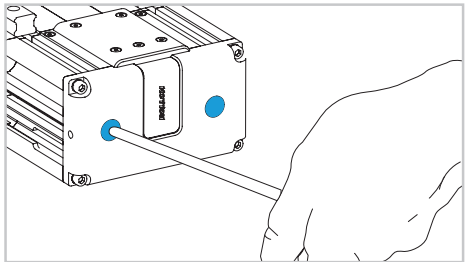

Fig. 10
- 11) Remove the screw of the belt tensioner (Fig. 10).